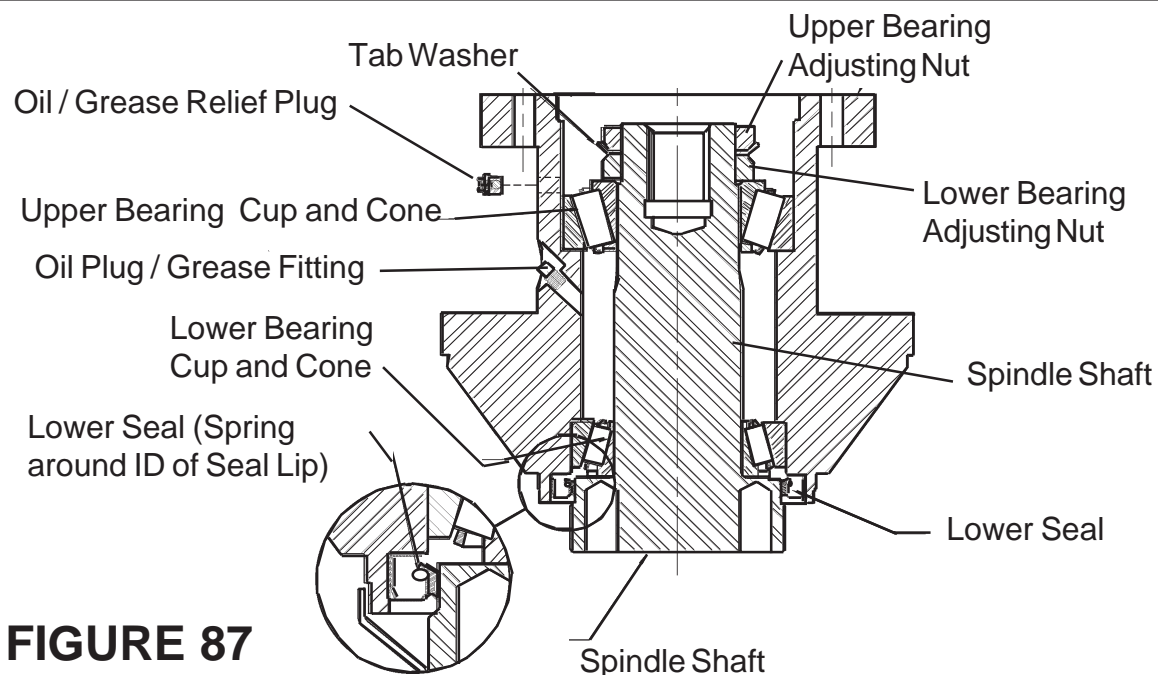

**FIGURE 86**
1. Remove the Motor Hold Down Tie Rod Nuts on the Top side of motor that are screwed on to Motor Hold Down Tie Rods (See Figure 86), It may be required to hold Ties Rods, This can be done with a Pipe Wrench or other round surface gripping Tool.
5. Install Motor Plate (Old Style), Note: This Plate has a front and Back and MUST be installed correctly for the four bolts that go down through the Plate to hold the Valve Block to fit, See Figure 91 on next page or read step 3 above. If working on an older model where the Four Bolts for the Valve Block went through the Motor Plate (see Figure 86), remove the temporary Bolts you installed to hold Valve Block on. Install New O-Rings and Back up Rings on Valve Block. Install Motor Plate down over Tie Rods; Install the four Bolts into Motor Plate that goes through Valve Block and tighten them down. DO NOT tighten the Nuts on the Tie Rods yet. Note to convert old style Motor Plate to new style, use a 13/16" Drill Bit and drill out (Recess) the 4 holes to a depth of 5/8" minimum, this will allow plate to sit down over Bolt Heads for Valve Body on top of Motor.